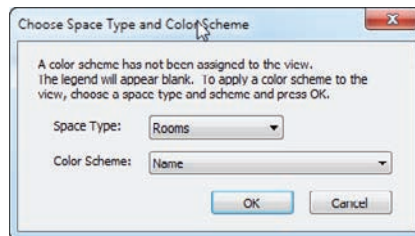

FIGURE 15.19 Specifying the color scheme
8. In the Choose Space Type And Color Scheme dialog, change Space Type to Rooms and Color Scheme to Name (see Figure 15.19).